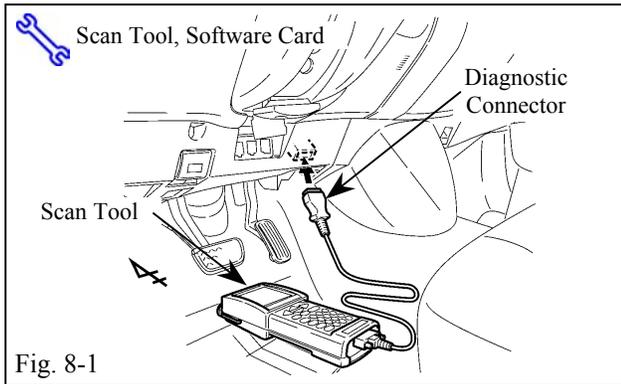

Fig. 8-1
- (1) Press and hold the moon roof button until the moon roof is closed. Hold for two (2) additional seconds.
- (a) Connect the scan tool connector to the vehicle's diagnostic connector in the lower dash area. (Fig. 8-1)
- (1) Verify the shift position is in "N" position and LED on "P" switch is illuminated.